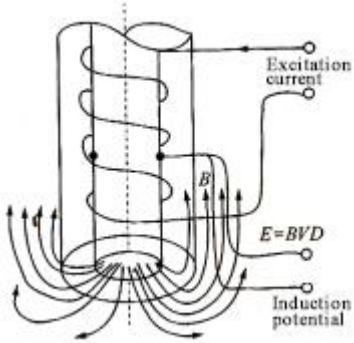

Figure 2 Schematic diagram
The working principle of the insertion electromagnetic flowmeter is the same as that of the pipeline electromagnetic flowmeter, which is also based on Faraday's law of electromagnetic induction, as shown in Figure 2. When the conductive liquid passes through two electrodes with a distance L at an average flow velocity V and perpendicular to the direction of the magnetic field of force B, a corresponding induced electromotive force (E) is generated between the electrodes, and the formula is: $E=B \times L \times V$
The electromagnetic flowmeter converter provides stable excitation current to the electromagnetic flow sensor excitation coil, and the preamplifier amplifies and converts the electromotive force induced by the sensor into a standard current signal or frequency signal, which is convenient for flow display, control and adjustment. Figure 2 below shows the converter circuit structure.